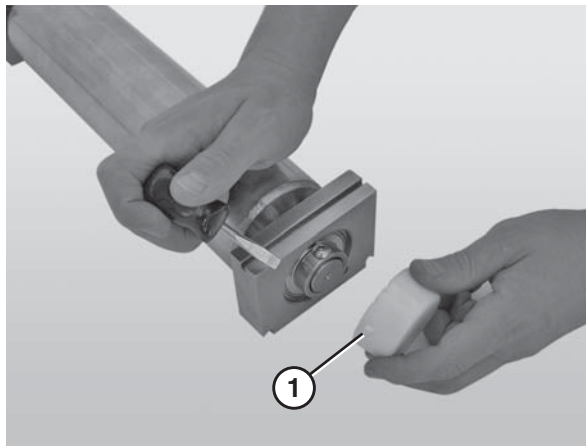

**Figure 98**
2. Remove the bearing (Figure 98, item 1) from the nose bar shaft assembly (Figure 98, item 2).